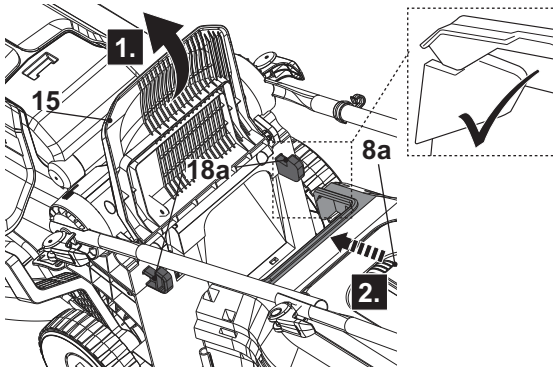

Fig. 7
4. Open the deflector guard (15) and hold it in position (Fig. 7, step 1).
5. Carry the grass catcher (8) by its carry handle (8a).
6. Align the support with the hooks (18a) and hang the grass catcher onto it (Fig. 7, step 2).
7. Carefully release the deflector guard (15) afterwards.